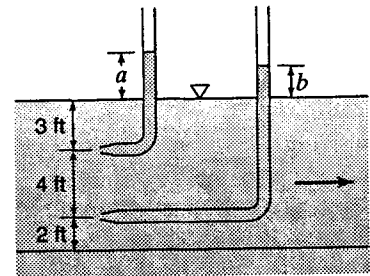

Figure X10.4.1
10.4.1 In Fig. X10.4.1 with uniform flow in a very wide open channel ($R_h = y$), $a = 3.20$ ft. Find V and b if $n = 0.015$.